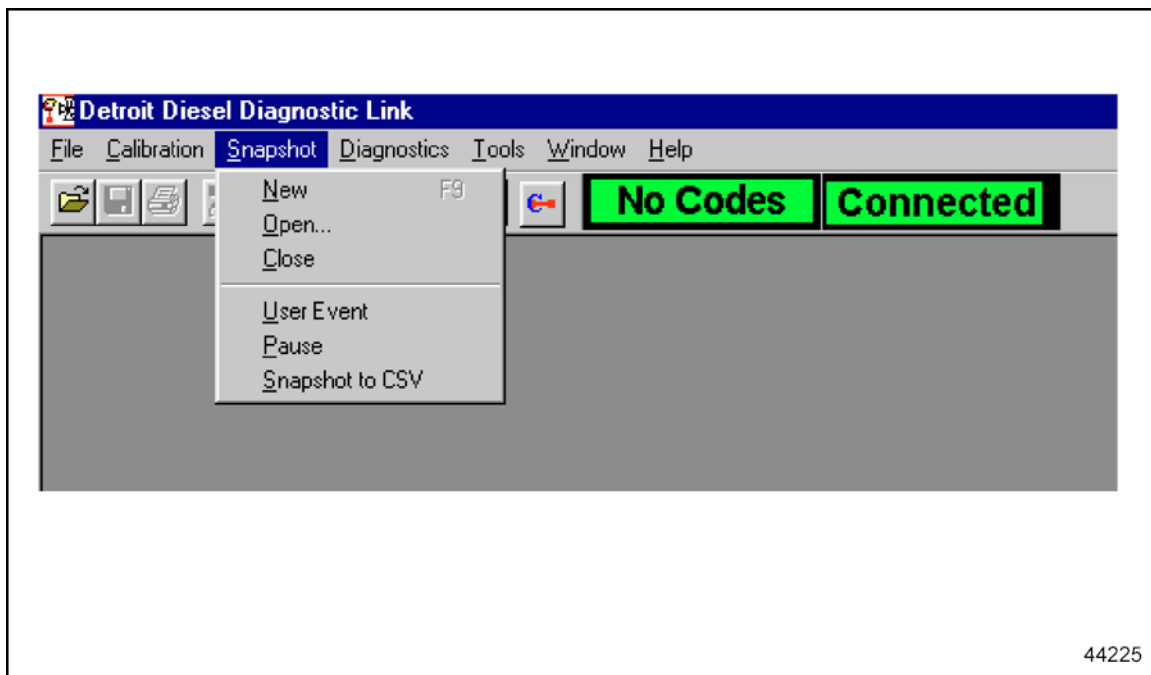

Figure 6-13 Snapshot Drop-Down Menu
1. Identify the filenames of snapshots to send. Typically the snapshot files a user creates are saved in the *C:\Detroit Diesel\Diagnostic* folder. If this folder was used to store snapshots, view the snapshots available by going to *Diagnostic Link*, opening up the **Snapshot** drop-down menu, and selecting **Open**. See Figure 6-13 and Figure 6-14.